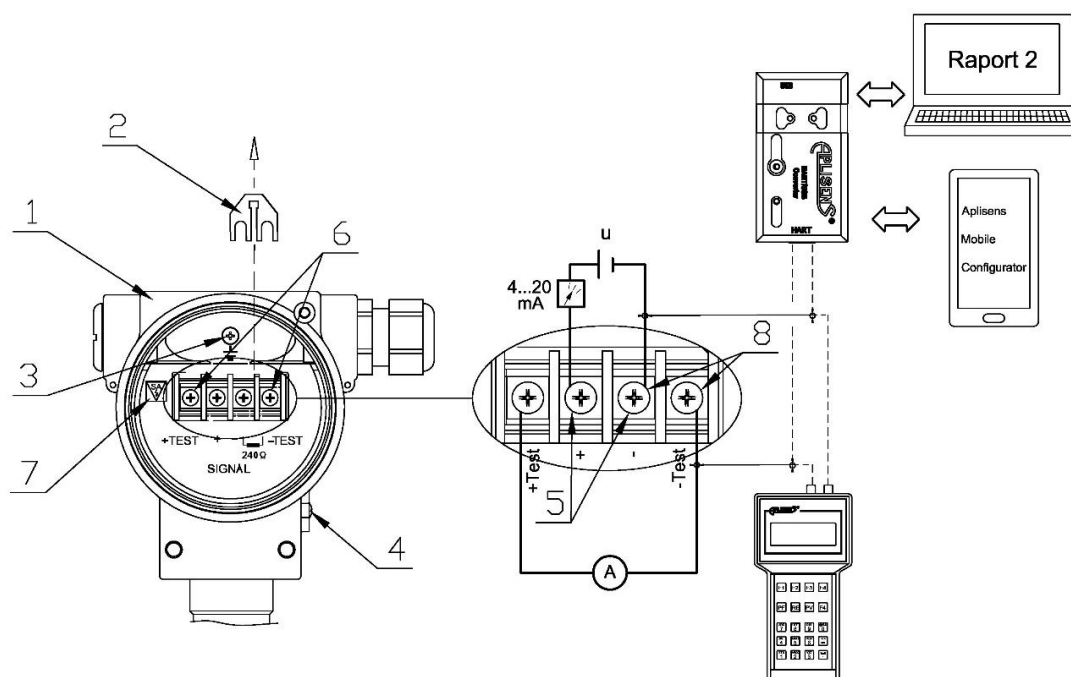

Figure 30. Local electrical connection of the communicator or HART modem to transmitter APC(R)-2000ALW Safety.
- remove HART communication jumper ②;
- after completing the communication, install the HART communication jumper ② on the correct position according to (→ Figure 30);